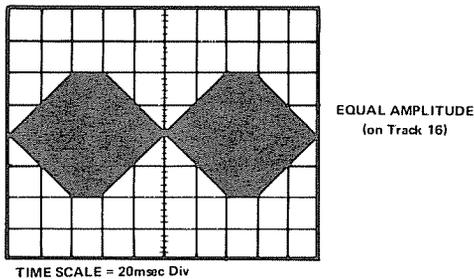

FIGURE 5-9. "CAT EYES" PATTERN
3. Read track 16 and verify the "cat eyes" pattern as shown in Figure 5-9. The smaller of the two "eyes" should not be less than 75% amplitude of the other. % = (small lobe/larger lobe) x 100.